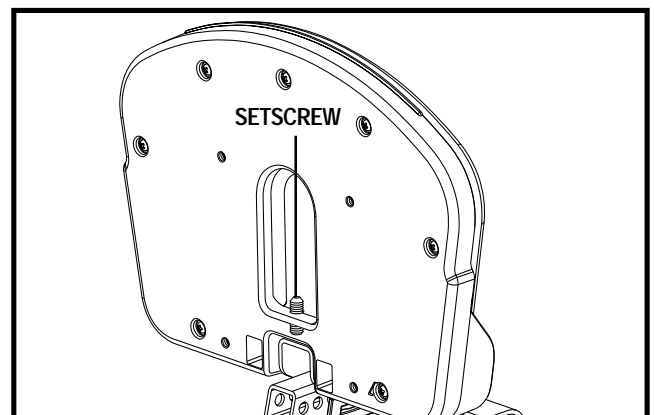

Figure 26. Foot Platform Angle Adjustment
1. Flip up the foot platform to locate the setscrew. See figure 26.